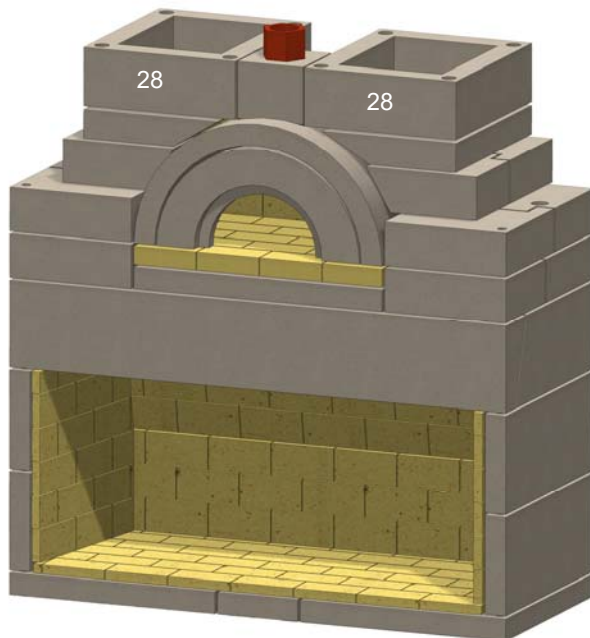

Figure 33. Outer Chimney Blocks
X. Install the outer chimney blocks (28). See Figure 33.
If the chimney top is not high enough, unusual downdrafts may occur, resulting in undesired smoke spillage. For a more thorough explanation of the figure 33 illustration, this is the traditional 2/10 rule.